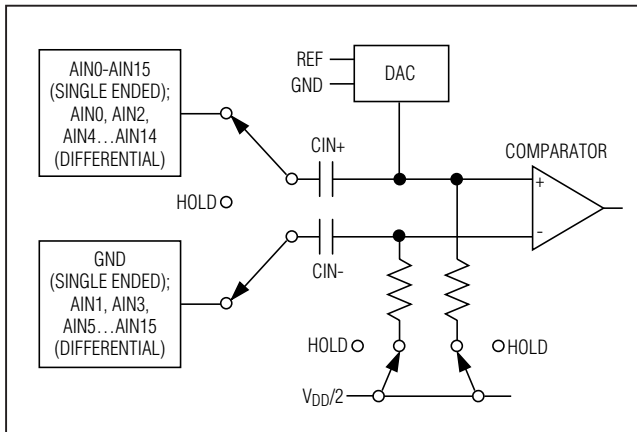

Figure 3. Equivalent Input Circuit
**Note 6:** See Figure 3 (Input Equivalent Circuit) and the Typical Operating Curve in the *Sampling Error vs. Source Impedance* section.
The MAX1227/MAX1229/MAX1231 use a fully differential ADC for all conversions. The analog inputs can be configured for either differential or single-ended conversions by writing to the setup register (see Table 3). Single-ended conversions are internally referenced to GND (see Figure 3).
The equivalent circuit of Figure 3 shows the MAX1227/MAX1229/MAX1231's input architecture. In track mode, a positive input capacitor is connected to AIN0–AIN15 in single-ended mode (and AIN0, AIN2, AIN4...AIN14 in differential mode). A negative input capacitor is connected to GND in single-ended mode (or AIN1, AIN3, AIN5...AIN15 in differential mode). For external T/H timing, use clock mode 01. After the T/H enters hold mode, the difference between the sampled positive and negative input voltages is converted. The time required for the T/H to acquire an input signal is determined by how quickly its input capacitance is charged. If the input signal's source impedance is high, the required acquisition time lengthens. The acquisition